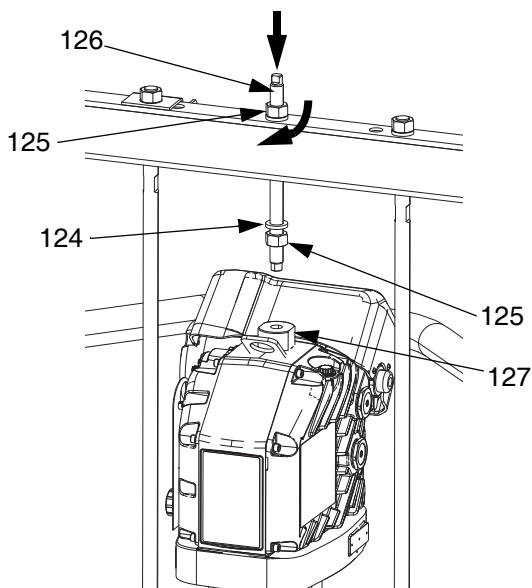

FIG. 50
1. Using a capable hoist, insert tie rods into the Displacement Pump (AC) and secure the Driver (AB) to the Pump (AC).
- b. Install threaded rod (126) through center hole in the crossbar. Install lock washers (124) and nuts (125) onto threaded rod (126), both above and below crossbar. Use wrench to hold lift ring adapter (127) and tighten threaded rod (106) into lift ring adapter (127) using another wrench. See FIG. 50.
- c. Tighten nut (125) below crossbar to 25 ft-lb (34 N•m) maximum.
- d. Tighten nut (125) above crossbar to lock Driver (AB) in place.